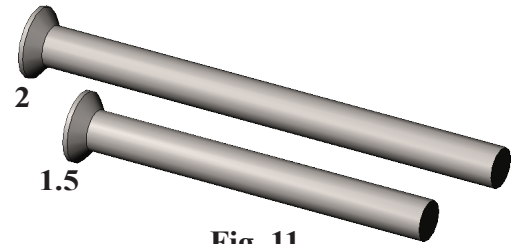

Fig. 11
Step 3. You now have two Flat Head Screws: **1.5 and 2 inch**, **Fig 11**.